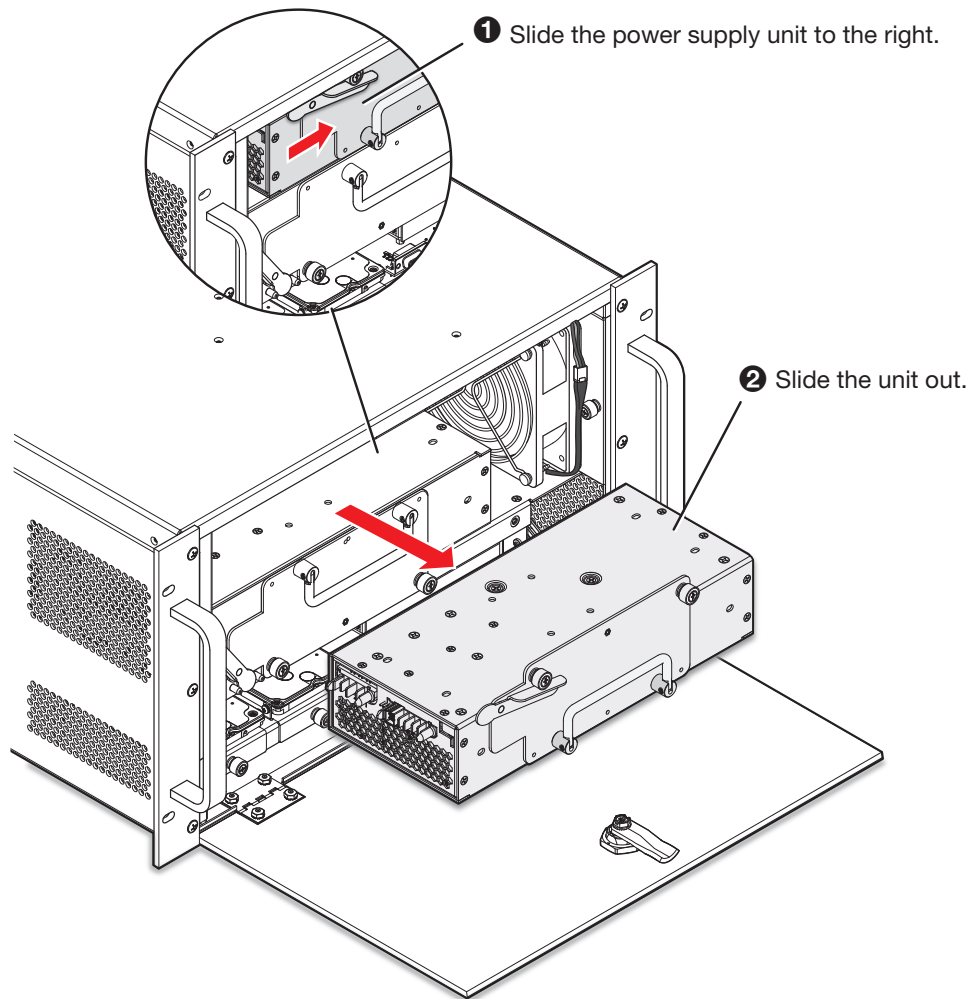
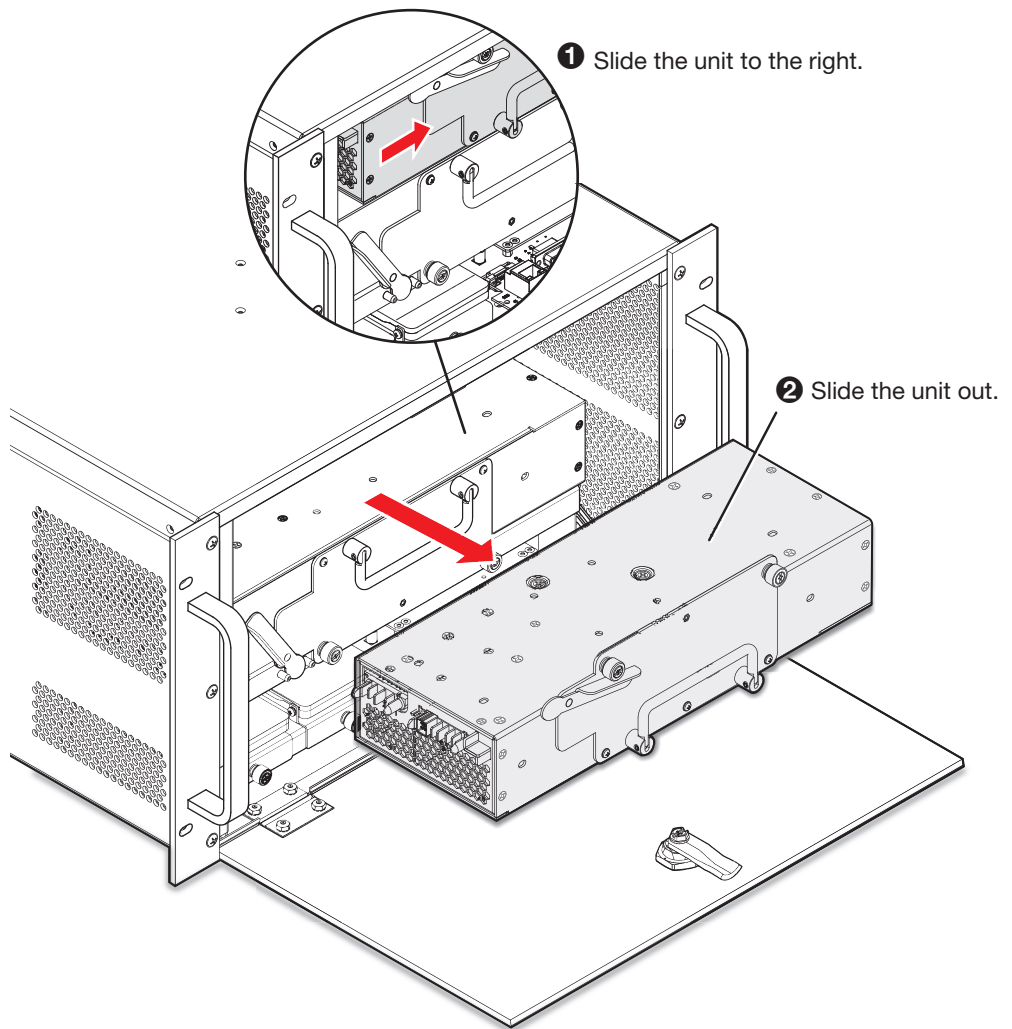

Figure 98. Rotating the Latch and Sliding the Power Supply to the Right and Out (Quantum Ultra 610)
Figure 99. Sliding the Power Supply Out (Quantum Ultra II 610)
- 3.** Rotate the lever to the right (3) until it is in a horizontal position, parallel to the top and bottom of the unit.
- 4.** As you rotate the lever, the power supply slides toward the right. Continue sliding the power supply to the right as far as possible (see figure 98, above, and **figure 99, 1** on the next page).
5. Lift the power supply up slightly and slide it toward you, out of the chassis (see figure 98 on the previous page and figure 99, **2**).